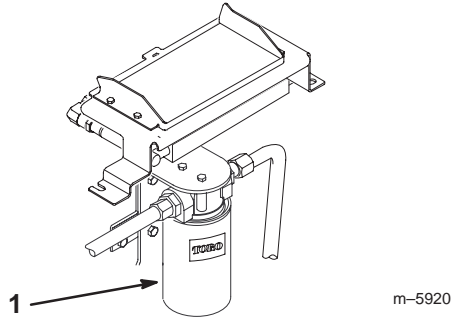

Figure 43
5. Place a drain pan under the filter (Fig. 43).
6. Remove the old filter (Fig. 43) and wipe the surface of the filter adapter gasket clean.
8. Install the replacement hydraulic filter onto the filter adapter (Fig. 43). Tighten it clockwise until the rubber gasket contacts the filter adapter, then tighten the filter an additional 3/4 turn.